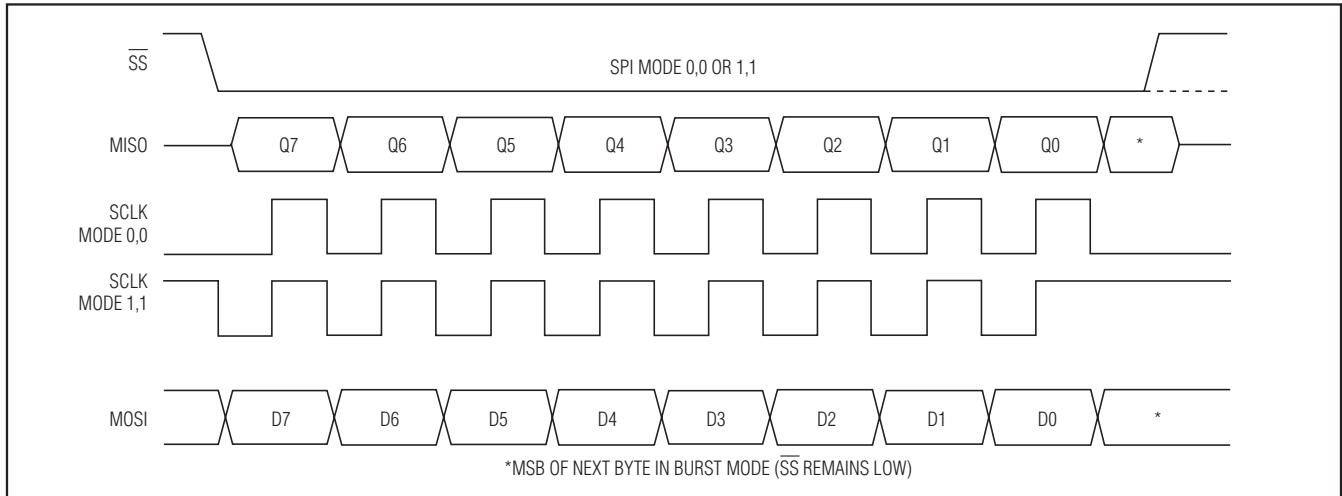

Figure 16. SPI Clocking Modes
The SPI master provides the MAX3421E SCLK signal to clock the SPI interface. SCLK has no low-frequency limit, and can be as high as 26MHz. The MAX3421E changes its output data (MISO) on the falling edge of SCLK and samples input data (MOSI) on the rising edge of SCLK. The MAX3421E ignores SCLK transitions when $\overline{SS}$ is high. The inactive level of SCLK may be low or high, depending on the SPI operating mode (Figure 16).
The MAX3421E SPI interface operates without adjustment in either SPI mode (CPOL = 0, CPHA = 0) or (CPOL = 1, CPHA = 1). No mode bit is required to select between the two modes since the interface uses the rising edge of the clock in both modes. The two clocking modes are illustrated in Figure 16. Note that the inactive SCLK value is different for the two modes. Figure 16 illustrates the full-duplex mode, where data is simultaneously clocked into and out of the MAX3421E.
- 2) After driving SCLK to its inactive state, the SPI master selects the MAX3421E by driving $\overline{SS}$ low. The MAX3421E turns on its MISO output buffer and places the first data bit (Q7) on the MISO output (Figure 16).
puts the MSB of the next data byte in the sequence on the MISO output (Figure 16).